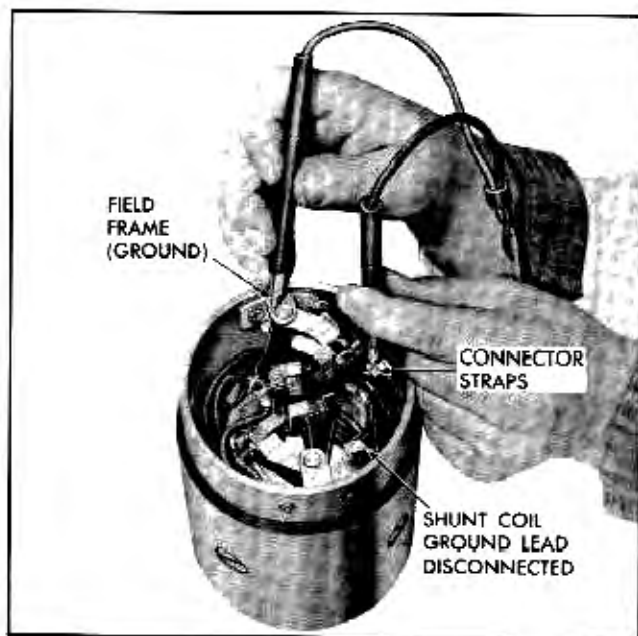

Fig. 12-39 Testing Field Coils for Ground
d. Using a 110-volt test lamp, place one lead on the connector strap and the other on the field frame (Fig. 12-39). Disconnect the shunt coil ground before this check is made. If the lamp lights, the field coils are grounded and the defective coils will require repair or replacement.